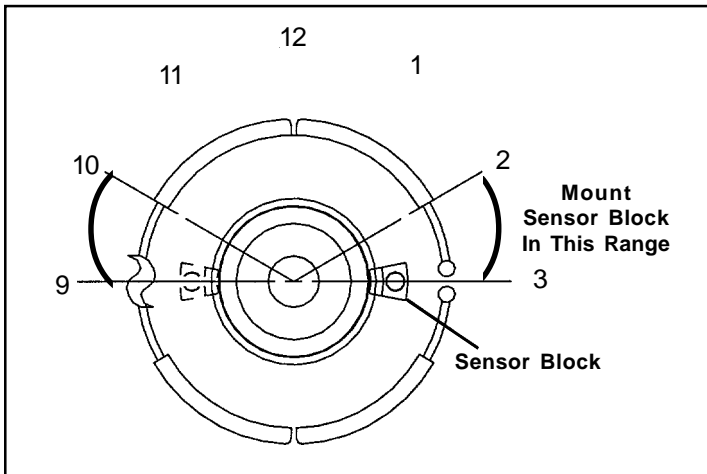

Figure 1
2. For best results, the sensor mounting block needs to be welded into position at approximately the 9 or 3 o'clock position on the axle spindle to lessen the effect from axle flexure due to loading. See Figure 1.